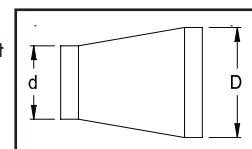

Figure 1
*Reducer or increaser ratio (d/D) small diameter divided reducer ratio is $d/D = \frac{4}{8} = \frac{1}{2}$. To estimate the equivalent foot length for the fitting, use the smaller pipe diameter for the equivalent length figure. Example 4" to 8" reducer; the reducer ratio is $\frac{1}{2}$ and the smaller pipe diameter is 4". So, from the chart, the equivalent feet would be 7 feet. (See Figure 1)